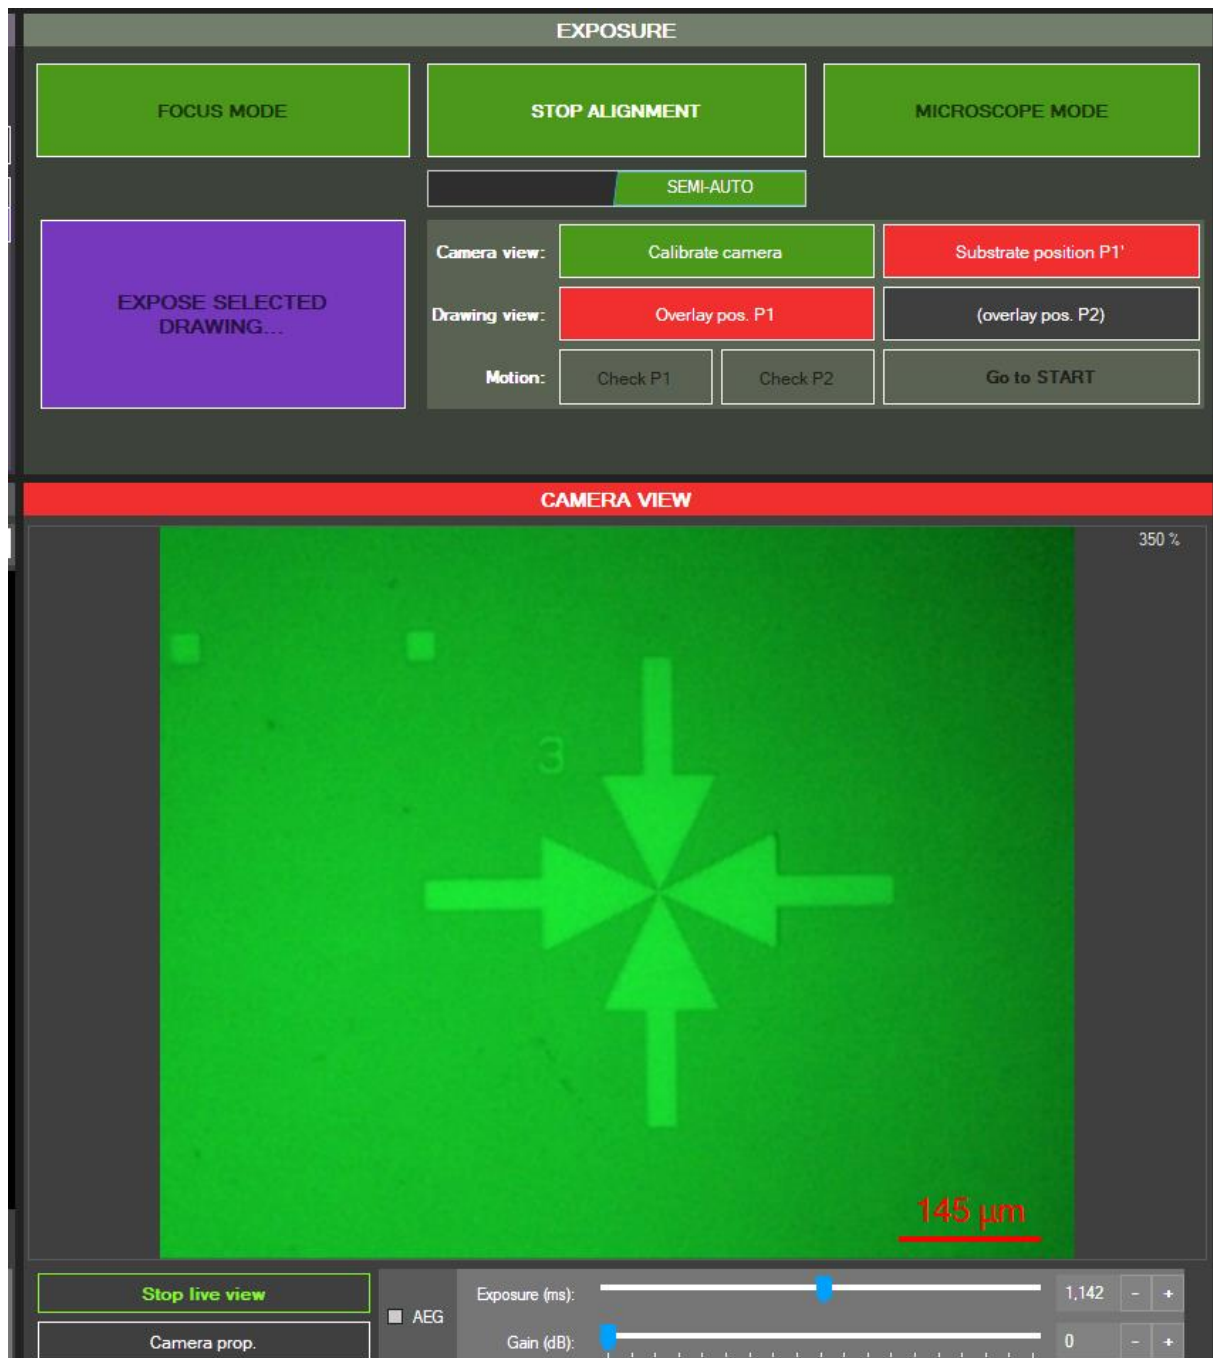

Figure 58 - Semi-auto alignment: defining point P1'
- Selection of point P1' (Figure 56b): click on **Substrate position P1'**. As for the previous step, the camera live view may start and the mouse cursor shape may change. Move the stage (see section 4.1.1) until the first patterned cross is visible (numbered "1" in this example), then click on its center (point P1') as shown in Figure 58